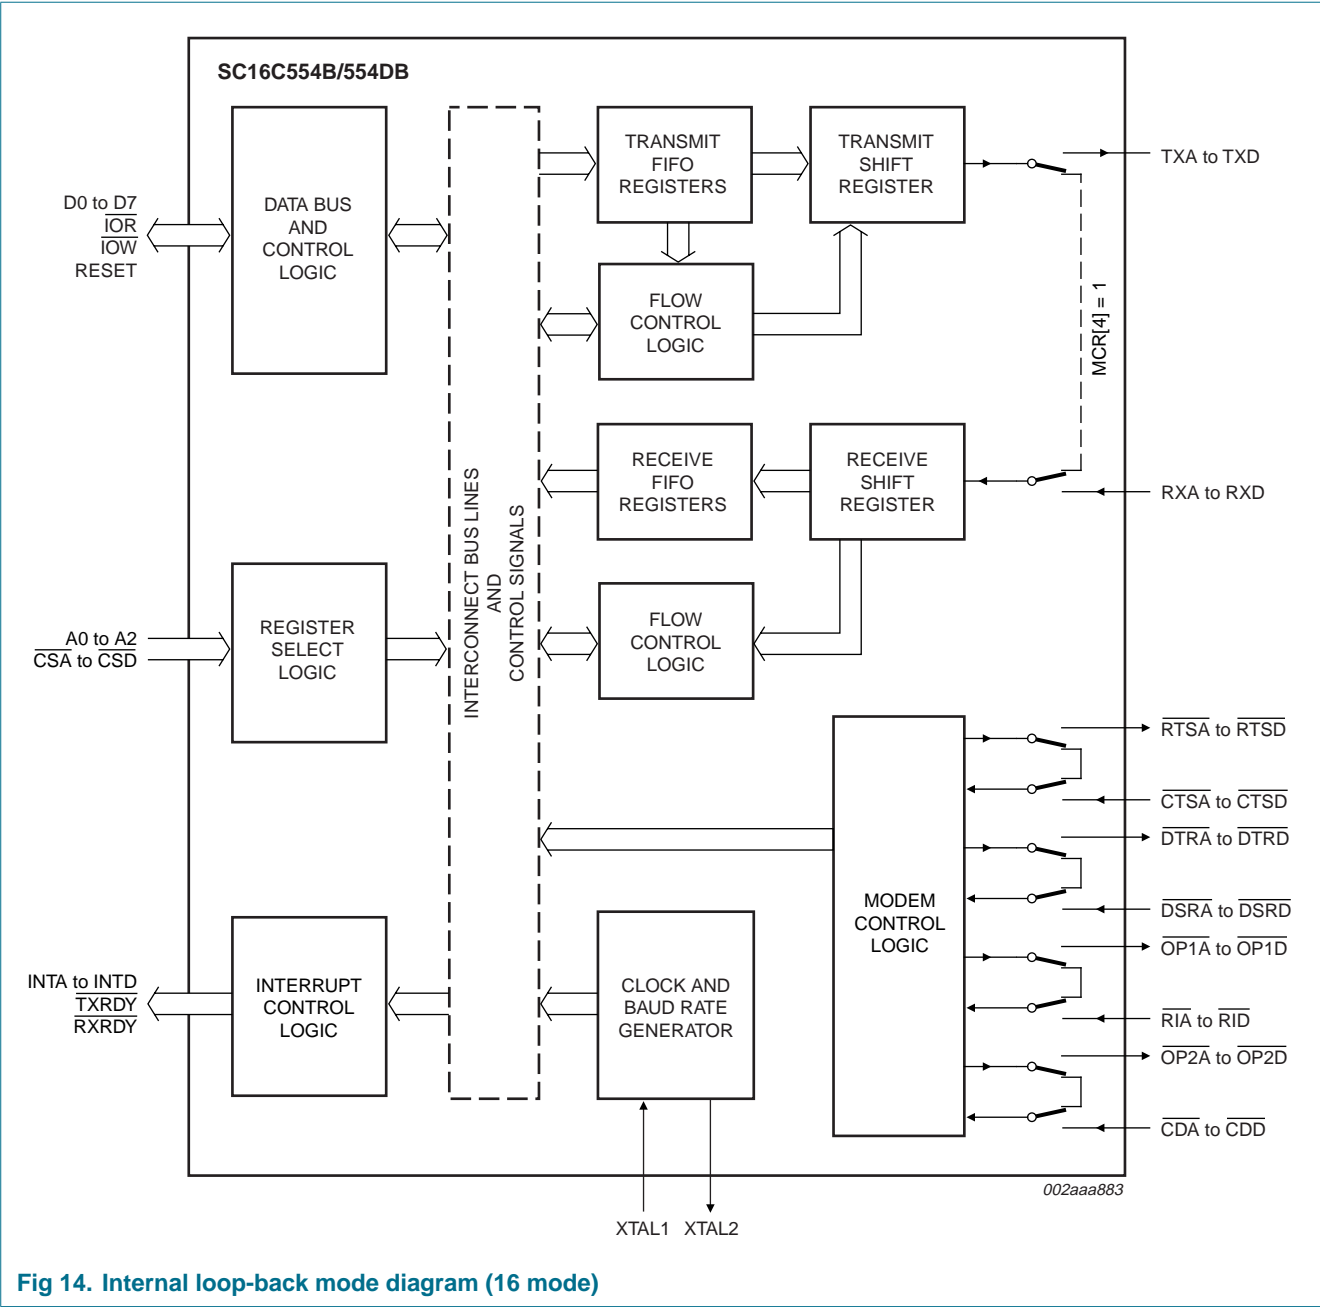

Fig 14. Internal loop-back mode diagram (16 mode)
The internal loop-back capability allows on-board diagnostics. In the loop-back mode, the normal modem interface pins are disconnected and reconfigured for loop-back internally. MCR[0:3] register bits are used for controlling loop-back diagnostic testing. In the loop-back mode, $\overline{\text{OP1}}$ and $\overline{\text{OP2}}$ in the MCR register (bits 2:3) control the modem $\overline{\text{RI}}$ and $\overline{\text{CD}}$ inputs, respectively. MCR signals $\overline{\text{DTR}}$ and $\overline{\text{RTS}}$ (bits 0:1) are used to control the modem $\overline{\text{DSR}}$ and $\overline{\text{CTS}}$ inputs, respectively. The transmitter output (TX) and the receiver input (RX) are disconnected from their associated interface pins, and instead are connected together internally (see Figure 14). The $\overline{\text{CTS}}$, $\overline{\text{DSR}}$, $\overline{\text{CD}}$, and $\overline{\text{RI}}$ are disconnected from their normal modem control input pins, and instead are connected internally to $\overline{\text{RTS}}$, $\overline{\text{DTR}}$, $\overline{\text{OP2}}$ and $\overline{\text{OP1}}$. Loop-back test data is entered into the Transmit Holding Register via the user data bus interface, D0 to D7. The transmit UART serializes the data and passes the serial data to the receive UART via the internal loop-back connection. The receive UART converts the serial data back into parallel data that is then made available at the user data interface D0 to D7. The user optionally compares the received data to the initial transmitted data for verifying error-free operation of the UART TX/RX circuits.